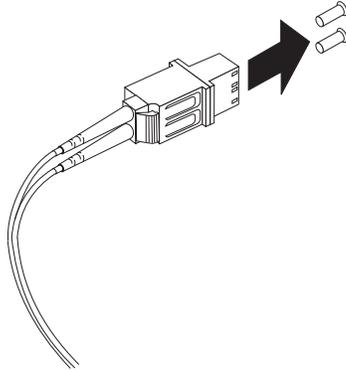

Figure 36. Removing the LC-SC cable adapter protective caps
3. Remove the two protective caps from the LC connector end of the LC-SC cable, as shown in Figure 36. Save the protective caps for future use.